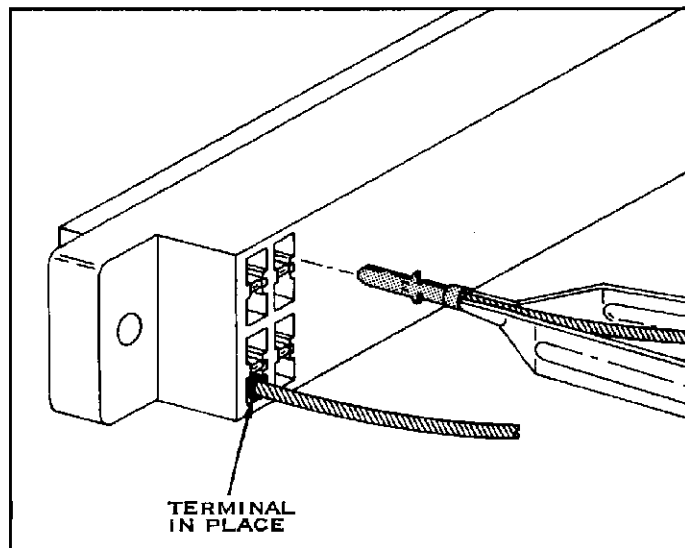

FIGURE 3
2. Insert the Contact into the connector cavity until you hear it click in place. Figure 3.